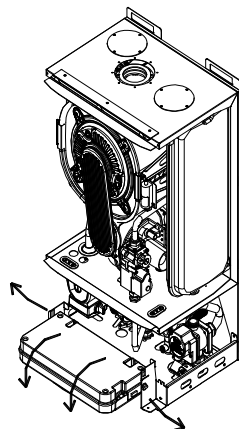

Fig. 5
- Grasp the left and right control panel support brackets (see fig. 5) and pull them outwards, at the same time rotating the panel downwards.